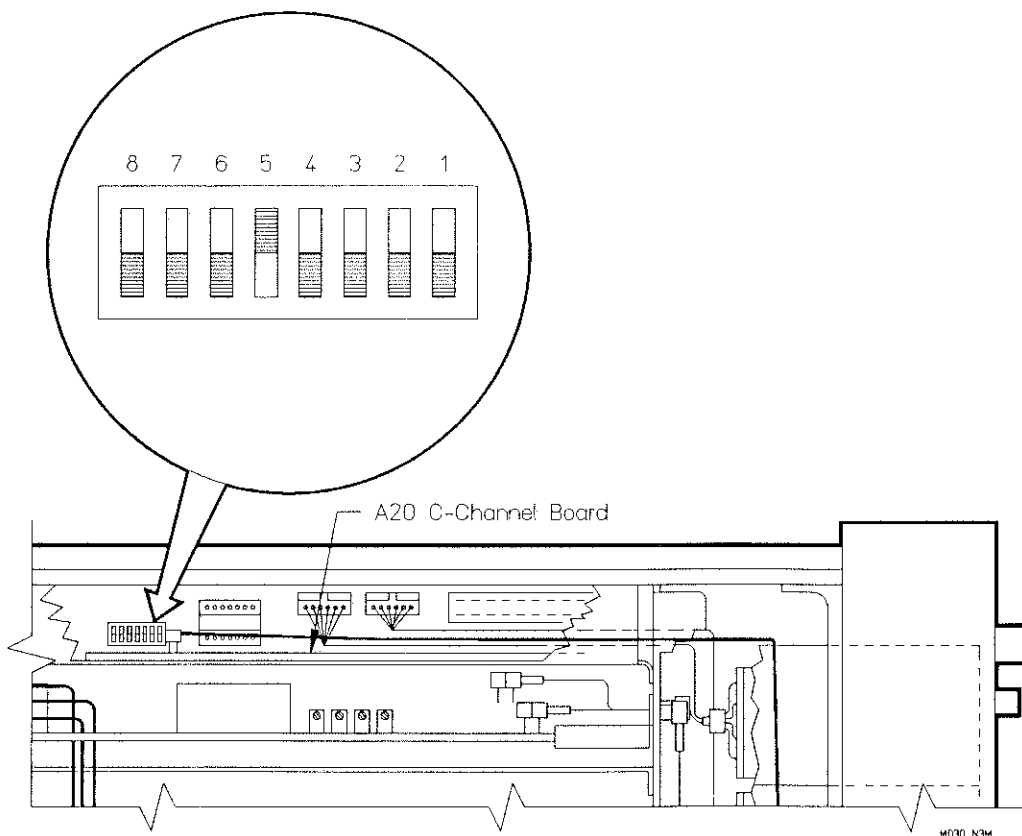

Figure 1-5. Option 030 Switch Setting
16. Locate the A12S1 dip switch on the mother board under the back corner of the C-Channel board (see *Figure 1-5*). When a standard instrument is shipped from the factory, the A12S1 switch is set with all eight switches in their left-most position (i.e., toward center line of instrument as viewed from the front panel). After installing the Option 030 C-Channel, the number 5 switch (the 5th switch from the front panel) needs to be switched to its right most position.